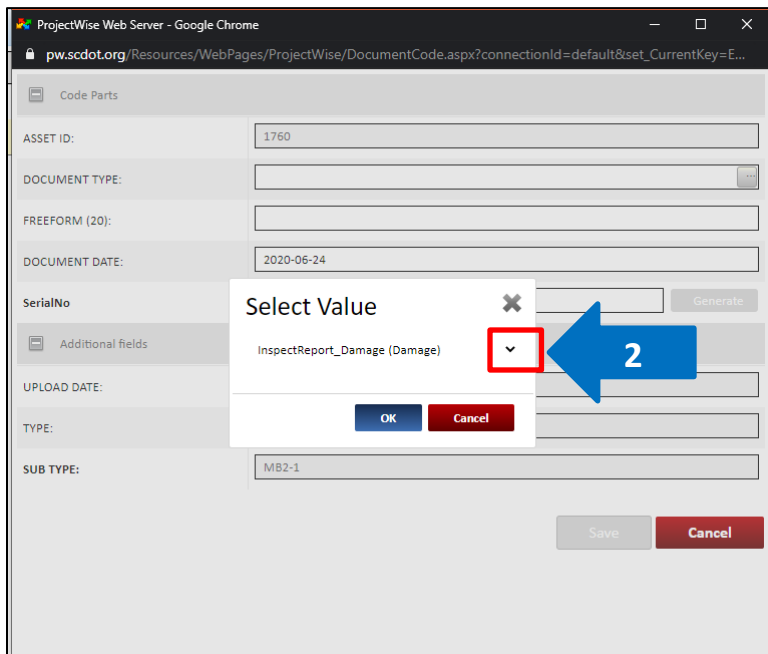
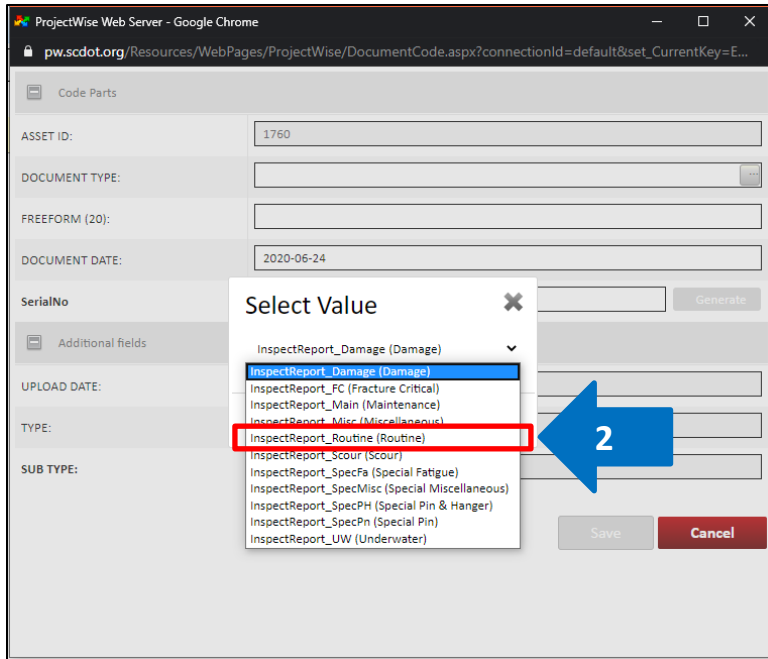

Figure 3.19. The dropdown window is shown by selecting the down arrow button on the pop-up window.
Figure 3.20. The dropdown list will match the Document Types described in Section 5.1.
2. A new window will appear with a dropdown list as shown in Figure 3.19. Select the appropriate Document Type (Figure 3.20) and select the “OK” button.